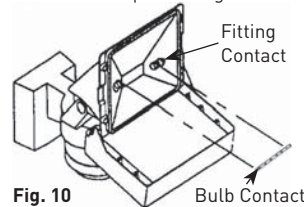

Fig. 10
3. Locate one of the bulb contacts onto one of the fitting contacts and push back the contact spring at the other end inserting the bulb contact into its fitting contact. Check that the bulb contacts at each end are properly located and that there is reasonable pressure on the bulb contacts. (See Fig. 10).